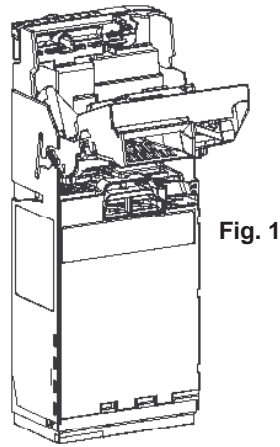

Fig. 1
- Push and hold the yellow button on the top right (below reject lever) of the Coin Manager and tilt the acceptor assembly forward. You do not have to remove the cassette (See Fig 1).